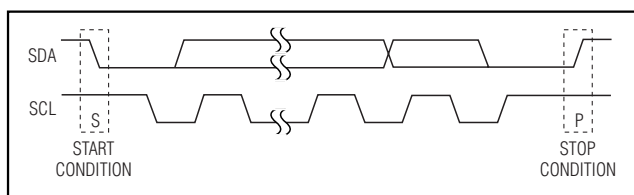

Figure 3. Start and Stop Conditions
Each transmission consists of a START condition (Figure 3) sent by a master, followed by the MAX7316 7-bit slave address plus R/W bit, a register address byte, one or more data bytes, and finally a STOP condition (Figure 3).
Both SCL and SDA remain high when the interface is not busy. A master signals the beginning of a transmission with a START (S) condition by transitioning SDA from high to low while SCL is high. When the master has finished communicating with the slave, it issues a STOP (P) condition by transitioning SDA from low to high while SCL is high. The bus is then free for another transmission (Figure 3).